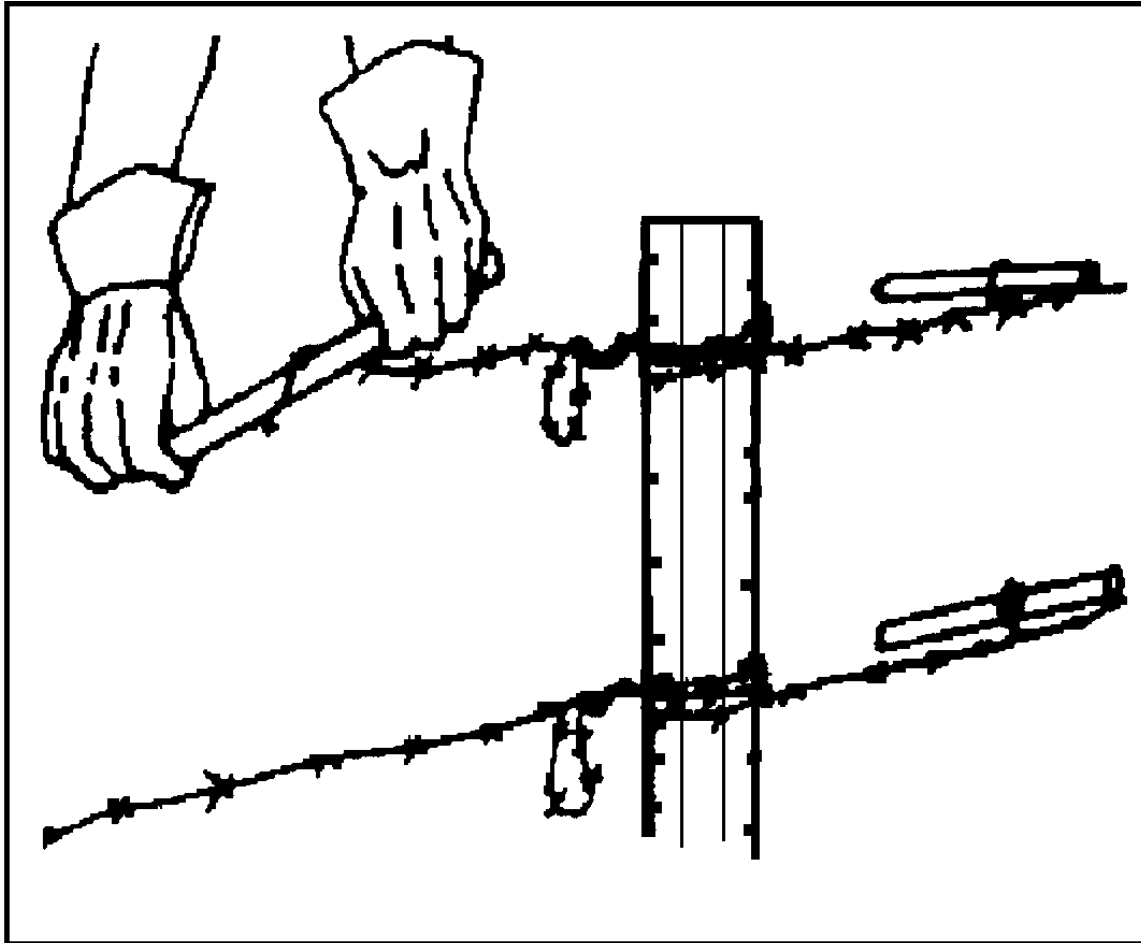

Figure 051-195-1020-3
- (1) Draw a large loop from the free end back under the wire.
- (2) Bring the loop up and over the top of the diagonal wire.
- (3) Bring the loop down and under the free end.
- (4) Wind the loop around the free end at least two complete turns.
- c. Tighten loose wires by racking with a short stick. Rack the wire in the middle, not at the ties or where wires intersect (Figure 051-195-1020-3).